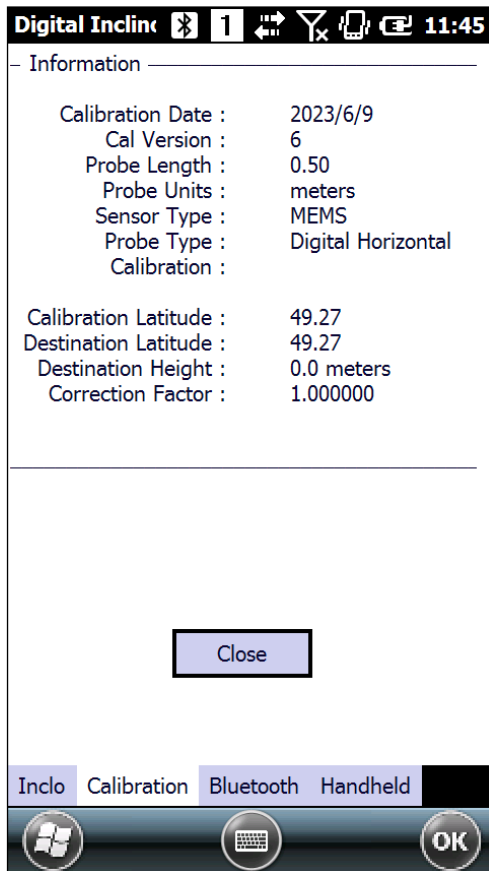

Figure 3: Calibration Screen
- Under the *Calibration* tab, *Sensor Type* should read “MEMS” & *Probe Type* should read “Digital Horizontal” as shown in Figure 3.